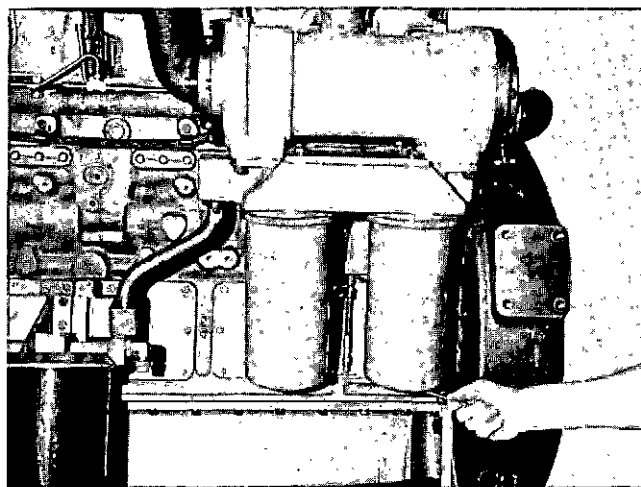

Fig. 14-1-97, V414183. Full-flow filter/cooler for non-piston cooled engines
1. Mount cooler/filter bracket with lockwashers and capscrews, Fig. 14-1-97 and 14-1-98.